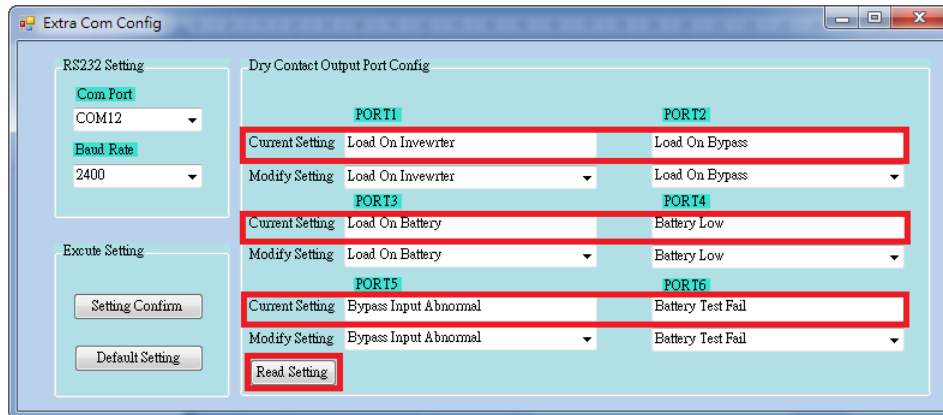

Fig. 7
Step 3: Click “Read Setting” button to check the current setting of the dry contact output port. Refer to screen in Fig. 7.